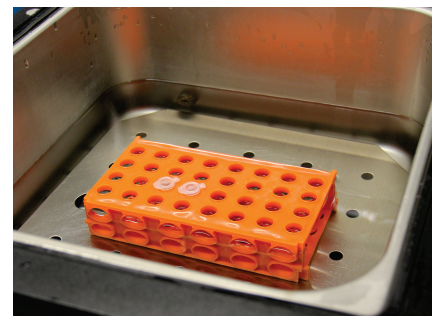

Fig. 20
16. As quickly as possible, transfer all the tubes from the ice bath to the 42°C water bath (Fig. 20) for a “heat shock” of exactly 90 seconds*.